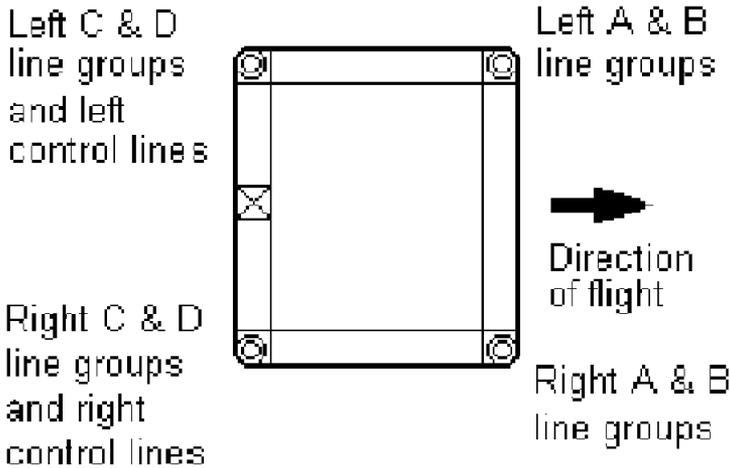

Figure 1.
STEP 5.) Inspect the MAIN OR RESERVE slider for correct installation. (See Figure 1.) **NOTE:** The reinforcement tape should face the canopy and there should not be any type of hole in this slider what so ever.